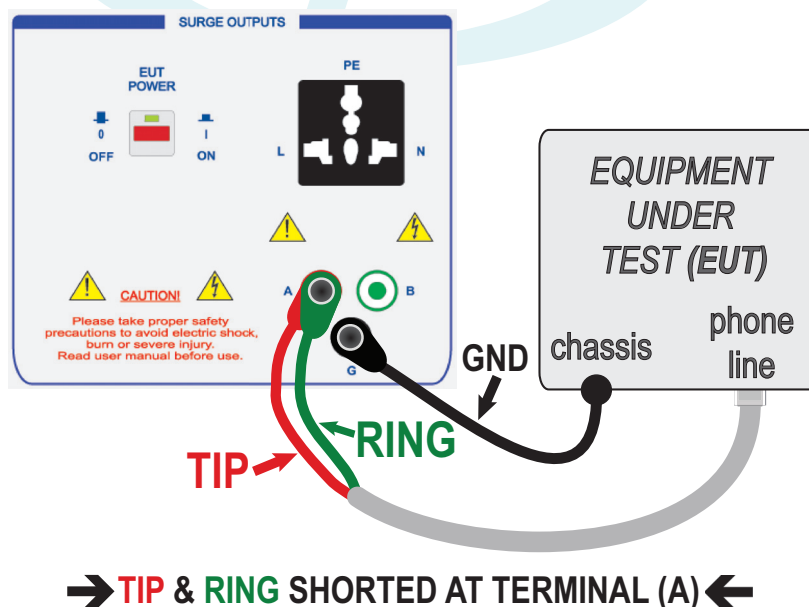

FIGURE 9 - Coupling Example for **Type A – 1500V (longitudinal) Surge**
The SGTEL-168 applies this surge between Terminal (A) and the Ground Terminal (G). Therefore, the EUT lines to be tested should be connected to these terminals for this surge, as shown in Figure 9.